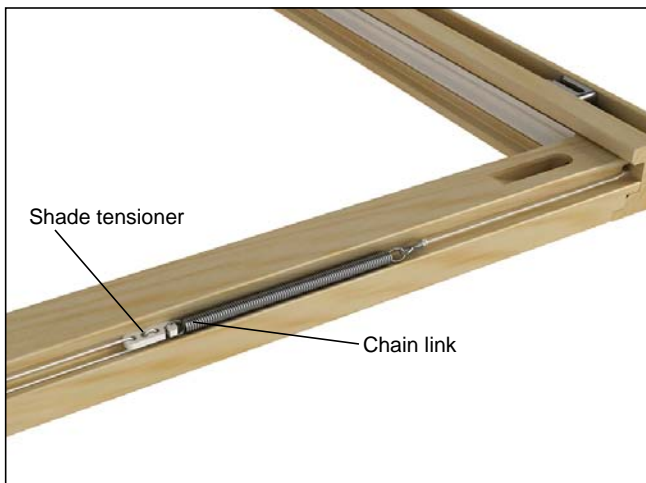

Figure 11
- Attach single chain to each spring. Use a small pliers to close the links in the chains. Attach slide tensioner to each spring. Make sure both pull bars are at the bottom, square and parallel. See figure 11.